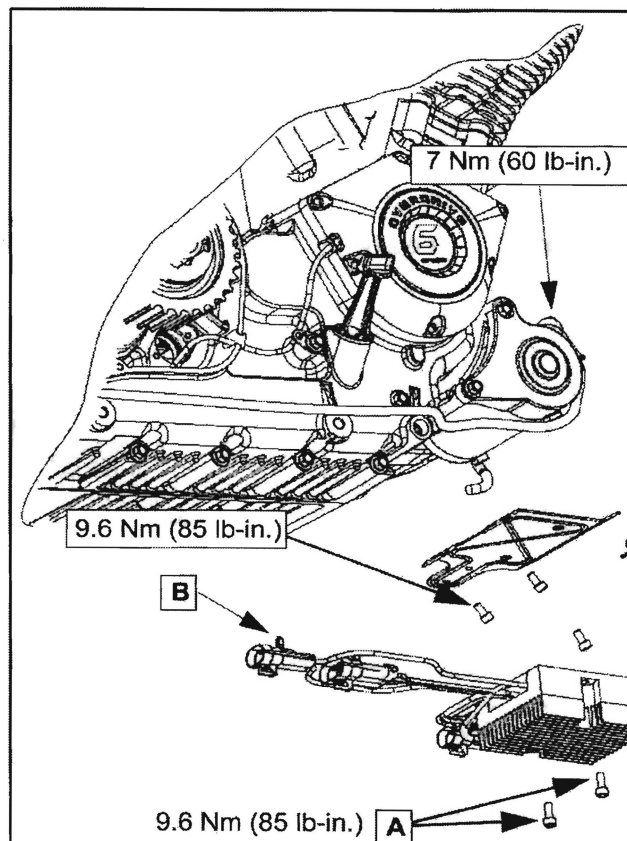
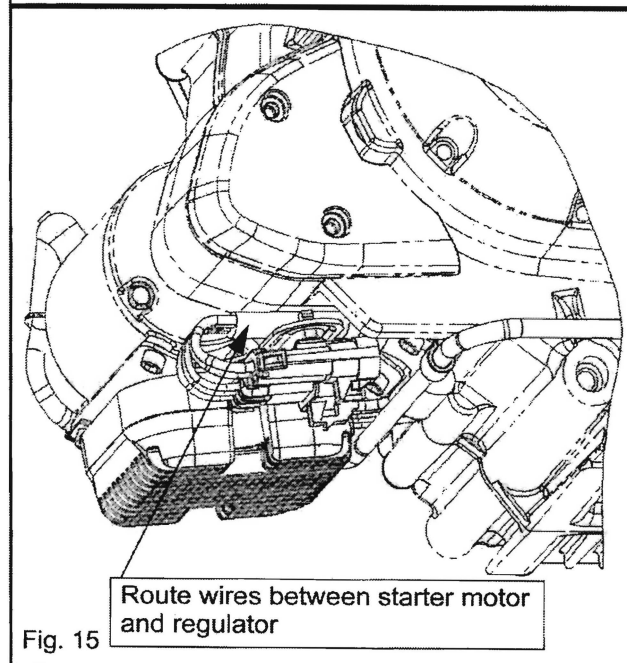

Fig. 14
Fig. 15
1. Remove the (2) mounting screws (A, Fig. 14).
4. Remove darts (B).
5. Installation steps are done in reverse order of removal. Be sure mounting bracket is clean and that all connections are clean and tight. Secure wires and connectors (Fig. 15).